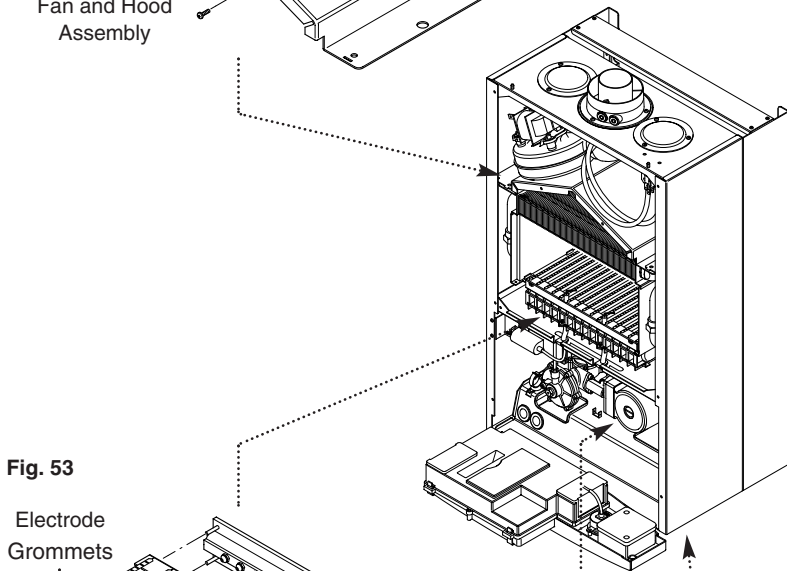

Fig. 53
12. Draw the burner out of the combustion box, pulling the electrode grommets from the slots in the combustion box lower panel (Fig. 53).
13. Disconnect the electrode leads and grommets from the electrodes. Completely remove the burner (Fig. 53).